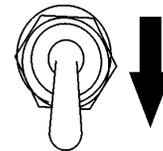

Figure 25. Generator On/Off Switch (Off)
4. To shut-down the engine, place the generator's **operation switch** (Figure 25) in the **OFF** position.